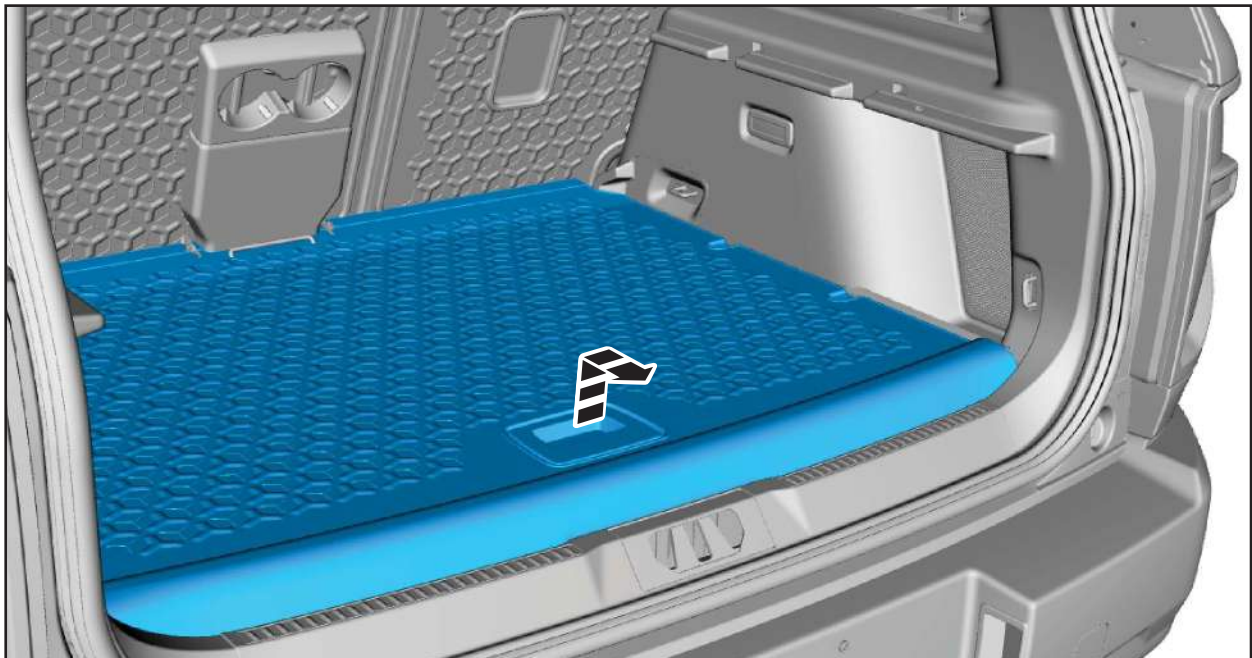

FIGURE 16
16. Remove the luggage compartment floor covering. See Figure 16.